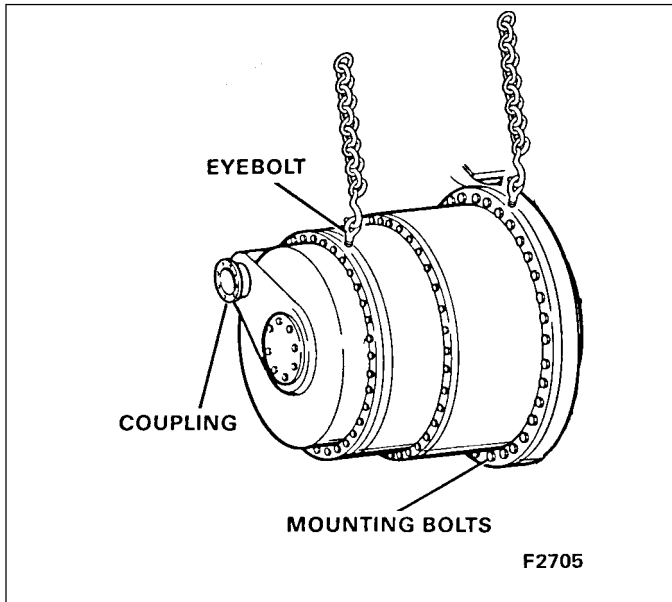

Figure 7-11. Propel Transmission Removal/Installation
12. Attach two 1-1/4 inch 7UNC eyebolts or two swivel ring bolts (P&H Part Number 6Q483D3) and a lifting device to the transmission as shown in Figure 7-11.